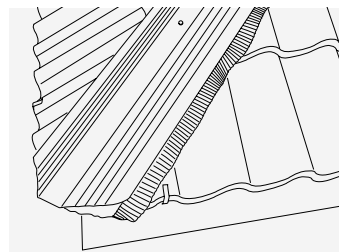

Fig. 9 – HipFast support tray cut at eaves
- 8 In all applications it is recommended that HipFast support trays (34002) be used. These are designed to ensure the correct support and alignment of hip tiles. Cut a HipFast Hip Support Tray to suit angle and overhang of tiles at eaves (Fig. 9).